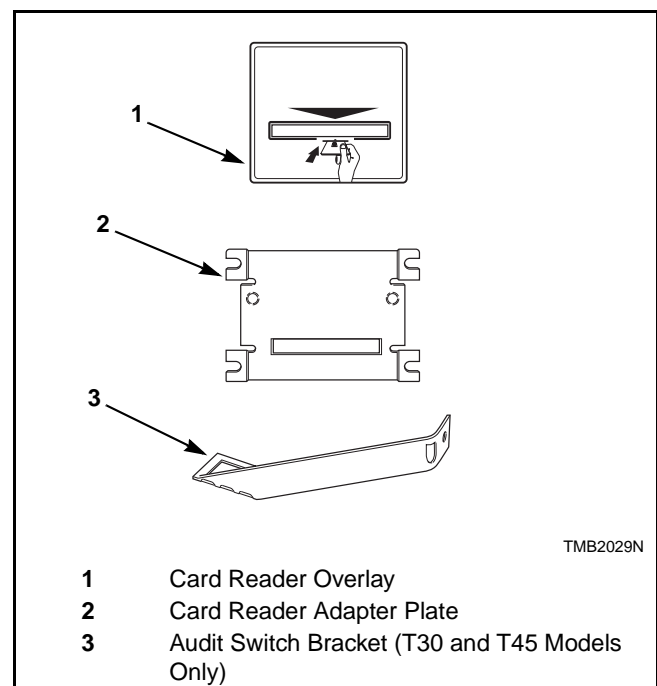

Figure 2
3. If the card reader is designed to mount behind the control surface, bracket configuration must be modified using the 44087901 Card Reader Adapter Plate, 70183901 Audit Switch Bracket (T30 and T45 models only), and 70334201 or 70334301 Card Reader Overlay included in the literature packet. Refer to *Figure 2*.